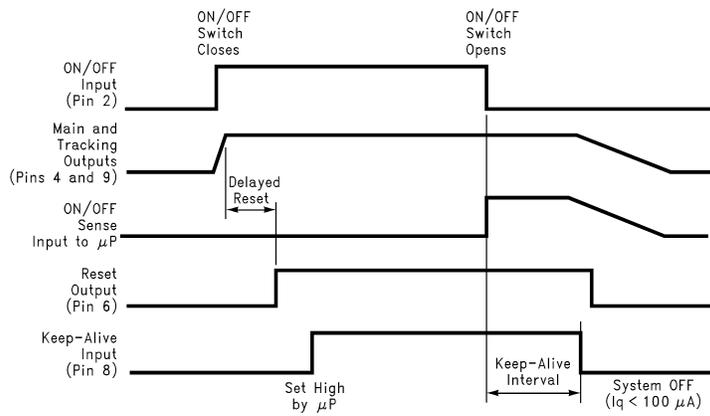

FIGURE 4. Basic Keep-Alive Operation
*Figure 4* illustrates the basic concept of Keep-Alive operation. The LM9072 provides regulated supplies to an entire microcontroller based system or module including remote sensors. The system is switched ON or OFF by a switch connected to the unregulated input supply and the ON/OFF input, pin 1. When closed the regulators turn ON and the system is held in a reset state for the duration of the delayed reset interval controlled by  $C_{DELAY}$ .